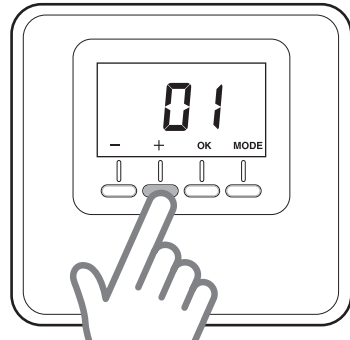

Figure 15 - Press the "+" and "-" Key for Select the Zone
- Press "+" and "-" to select the zone you wish to associate (Figure 15).